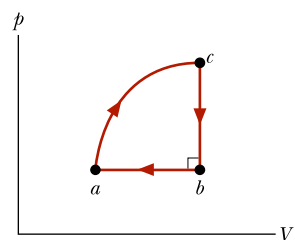

Figure 18.31 Problem 75.
**75** Figure 18.31 displays a closed cycle for a gas. From  $c$  to  $b$ ,  $40\text{ J}$  is transferred from the gas as heat. From  $b$  to  $a$ ,  $130\text{ J}$  is transferred from the gas as heat, and the magnitude of the work done by the gas is  $80\text{ J}$ . From  $a$  to  $c$ ,  $400\text{ J}$  is transferred to the gas as heat. What is the work done by the gas from  $a$  to  $c$ ? (Hint: You need to supply the plus and minus signs for the given data.)